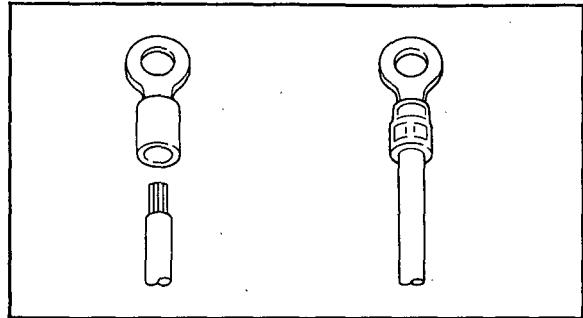

Figure 3-2. Crimp-On Solderless Lugs.
- (1) When connecting external wires to the terminals, install round solderless crimp-type lugs (use 4 mm screws) on the ends of each wire. (See Figure 3-2.)